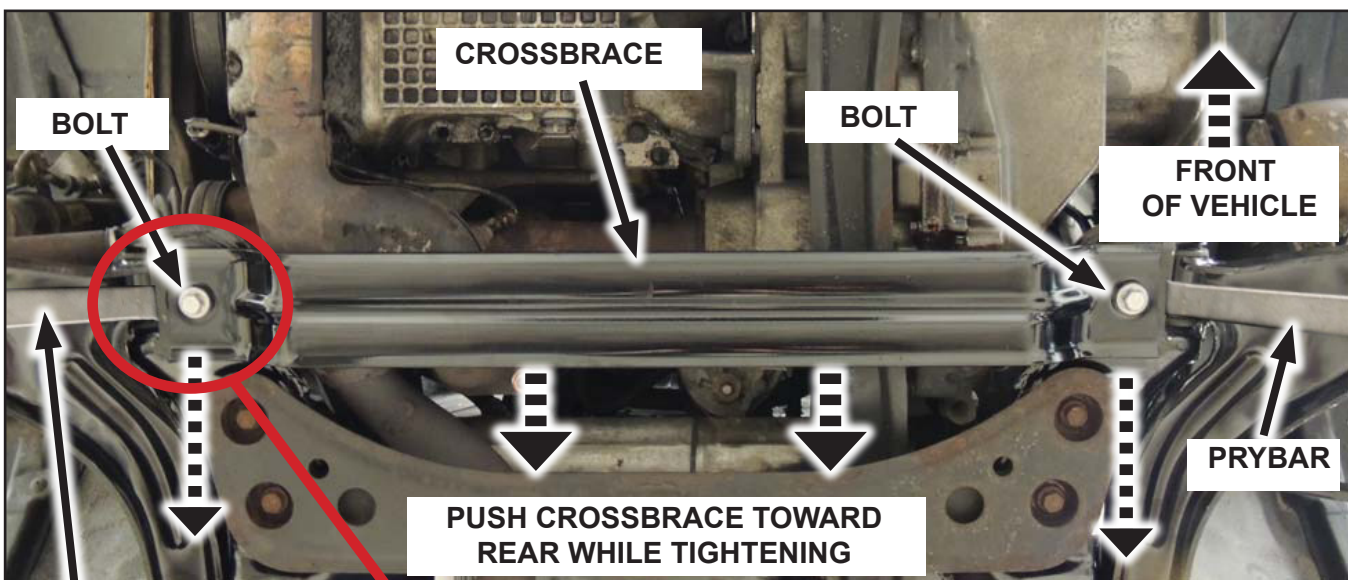

FIGURE 6
4. Install the crossbrace and the two bolts onto forward attachment points on the subframe. See Figures 6 and 7.
- c. **Use a 24" straight blade prybar (Snap-on P/N MPBS24 or equivalent) to prevent the nut plate from turning while tightening the crossbrace bolts.** See Figure 6.